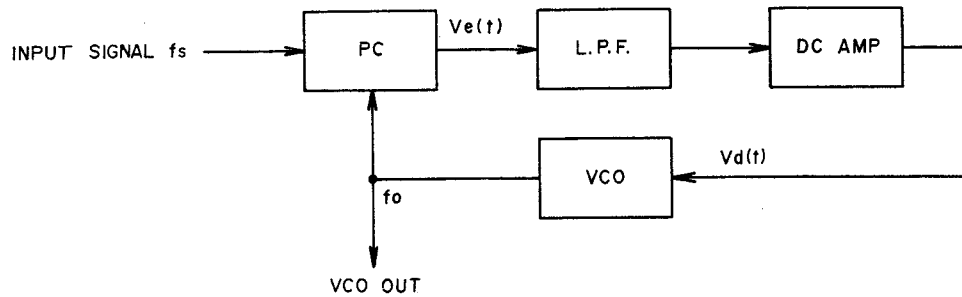

Fig. 13 PLL Circuit
PLL circuit is a kind of feedback circuit and is comprised of a Phase Comparator (PC), a Low Pass Filter (LPF), a Direct Current Amplifier (DC Amp) and a Voltage Control Oscillator (VCO) as shown in Fig. 13. The PC compares input signal F_s and VCO oscillator output and generates the difference in signal voltage $V_e(t)$ proportionately to this phase deviation. This $V_e(t)$ passes LPF and the DC Amp and becomes control voltage. This control voltage supplied to VCO and VCO oscillation frequency is DC controlled. When there is no input signal F_s , because there is also no $V_e(t)$, control voltage $V_d(t)$ becomes zero, and VCO maintains a *Free-running oscillation frequency. When a signal enters, VCO oscillation frequency F_o is controlled to narrow the difference between F_s by means of feedback as described above, and the PLL circuit assumes a synchronous condition. This is referred to as input signal lock. (When the difference between F_o and F_s is too large, the differential signal frequency becomes high and is reduced at the LPF. However, because the VCO control voltage does not change, PLL will not